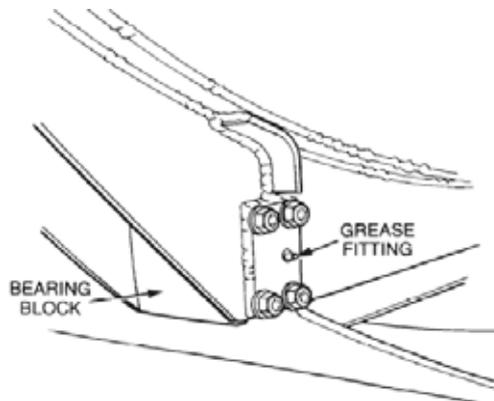

Figure 25 View of Right-hand Front Bearing Block
- v. Remove the four nuts and the grease fitting from one of the bearing blocks on the front tank support (Figure 25).